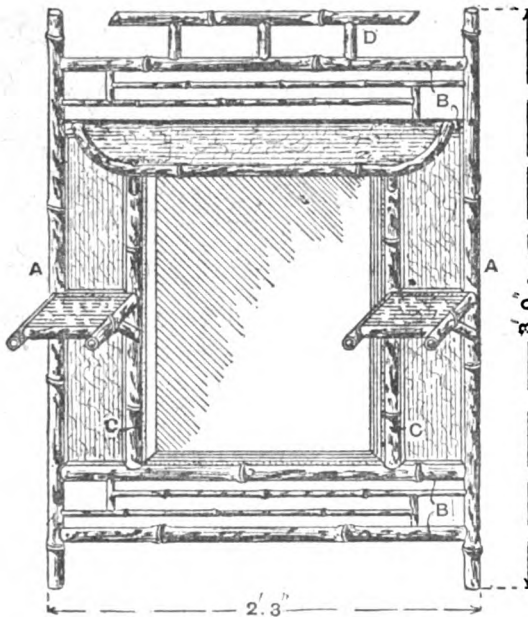

FIG. 1
**Bamboo Wall Mirrors.**—The illustrations show wall mirrors in bamboo, 3 ft. high and 2 ft. 3 in. wide, made chiefly from 1-in. cane. In Fig. 1 the two stiles A are 3 ft. long, connected by four rails B 2 ft. 2 in. long, each pair being at distances of  $3\frac{1}{2}$  in. and 7 in. respectively from the extremities, measuring to the centre of the canes. The two inner rails B are connected, at distances of 5 in. from the stiles A, by two stiles C, 1 ft. 10 in. long, thus forming a centre frame for the mirror. The stiles A and C are connected by short pieces 5 in. long, midway between the rails B. Four pieces, about 5 in.